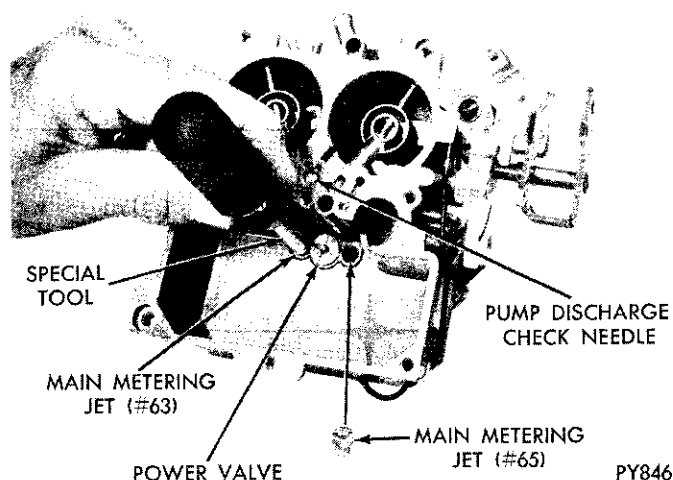

Fig. 12—Removing or Installing Main Metering Jets
(16) Using Tool TMC-36A, remove main metering jets (Fig. 12). (Number 65 located on throttle lever side of bowl; number 63 on opposite side.)
(7) Install main metering jets, using Tool TMC-36A. (Fig. 12). Tighten securely. (Number 65 on throttle lever side and number 63 on other side of bowl.)